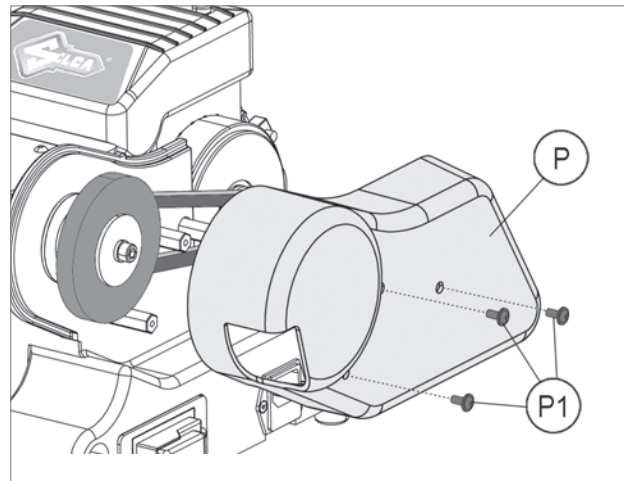

Fig. 45
- 6) Remove the screws (P1), then the protective cover (P) (Fig. 45).
- 3) Remove the cover (P) by loosening the screws (P1) (Fig. 45).
- 8) Place the motor cover (P) and secure with the 3 screws (P1).